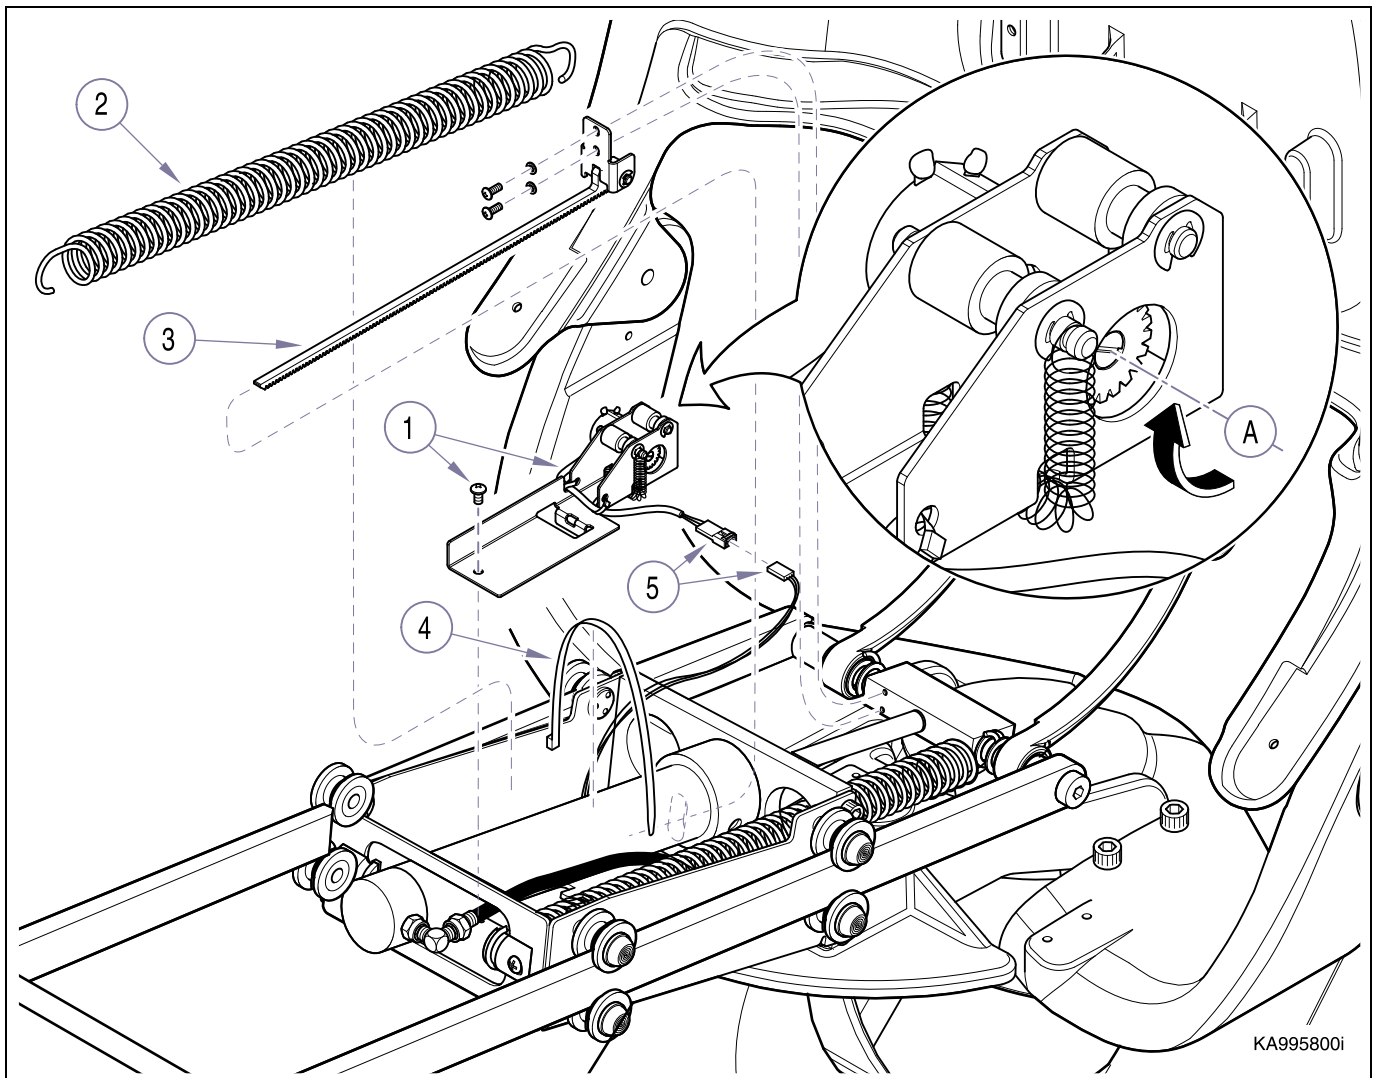

Figure 4-23. Back Potentiometer
If necessary, back positioning potentiometer (1, Fig. 4-23) can be over-riden in order to operate Back section.
- (3) Unplug chair power cord, disconnect lift spring (2, Fig. 4-23) on patient's right side and remove hydraulic cover (refer to para 4.3).
- (4) Remove gear rack (3), two screws.
- (5) Cut wire tie (4) and disconnect wire harness plugs (5).
- (2) Disconnect power supply to chair.
- (3) Install potentiometer assembly (1, Figure 4-23).
- (4) Connect wire harness plugs (5) and secure hydraulic hoses and wire to seat cylinder with wire tie (4).
- (5) Rotate (A) potentiometer spur gear (see arrow) until it stops at end of travel.